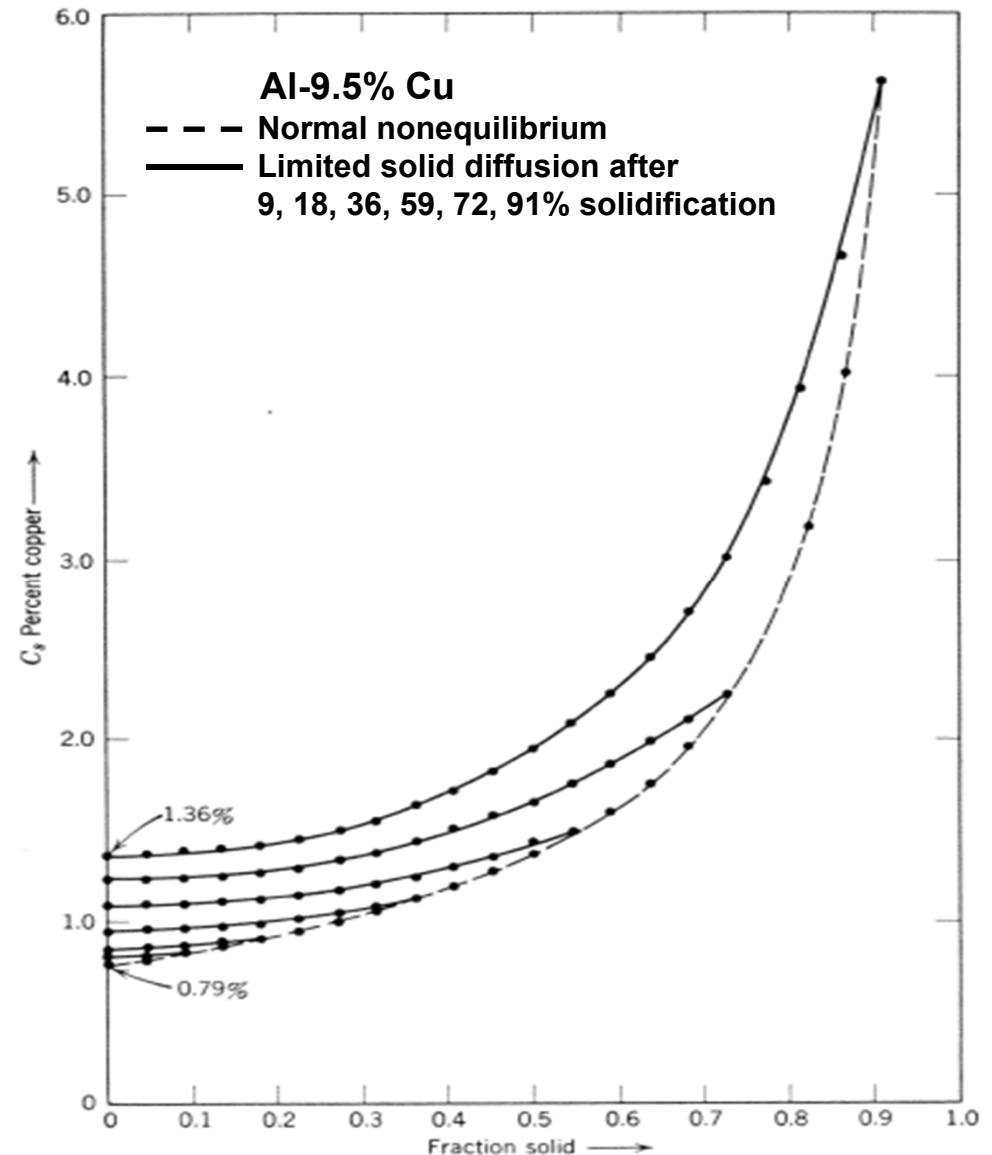

Fig. 5.47. Calculated distribution of solute between walls of cellular dendritic structure
is shown in Fig. 5.47 for some Al-Cu alloys.
- Thus, the distribution of solute is independent of speed if it is plotted in the dimensionless form of Fig.5.47.